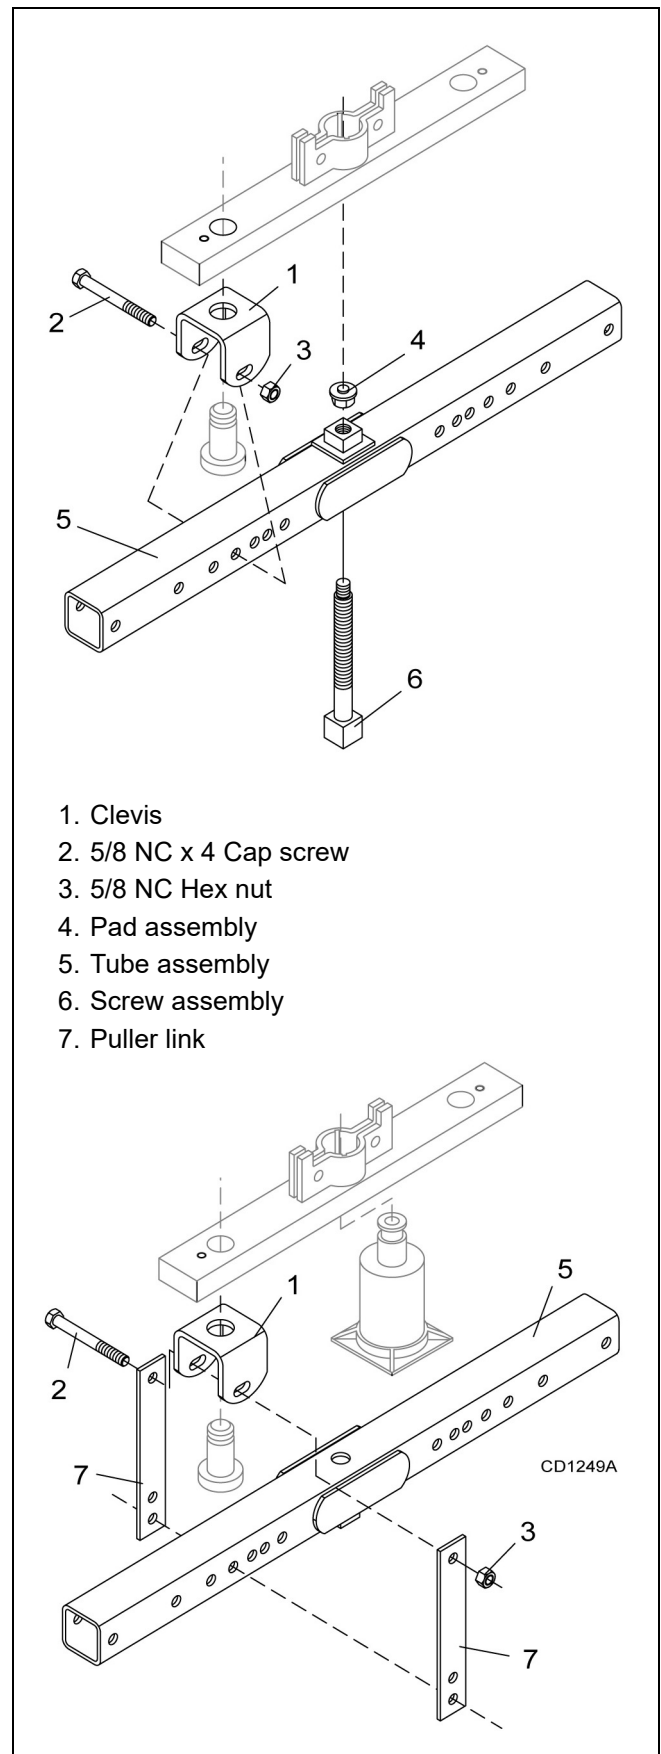

Figure 17. Crossbar Removal
NOTE: You will need to use either the puller screw (Item 6, Figure 17) or a small hydraulic jack to remove the crossbar.
3. Remove cotter pin and castle nut from bottom of crossbar, Figure 17.
4. Attach a clevis (1) to each end of crossbar, using blade pins, spacers, keyhole plates, and blade pin clips.
5. Position tube assembly (5) with threaded nut toward crossbar for puller screw removal or down for hydraulic jack removal.
6. For removal with puller screw, attach tube (5) to each clevis with bolts (2) and nuts (3). Place pad (4) in nut and thread puller screw (6) into nut from bottom. Tighten until pad is solid against gearbox shaft. For best results, strike head of puller screw with a hammer while tightening with a wrench.
7. For removal with a jack, attach tube to each clevis with puller links (7), bolts (2), and nuts (3). Place jack on tube with end of jack pressing against gearbox shaft. Slowly apply force with jack.